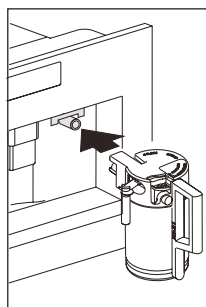

Fig. 32
- ▶ Remove the hot water spout (Fig. 13) and attach the milk container to the nozzle (Fig. 32).